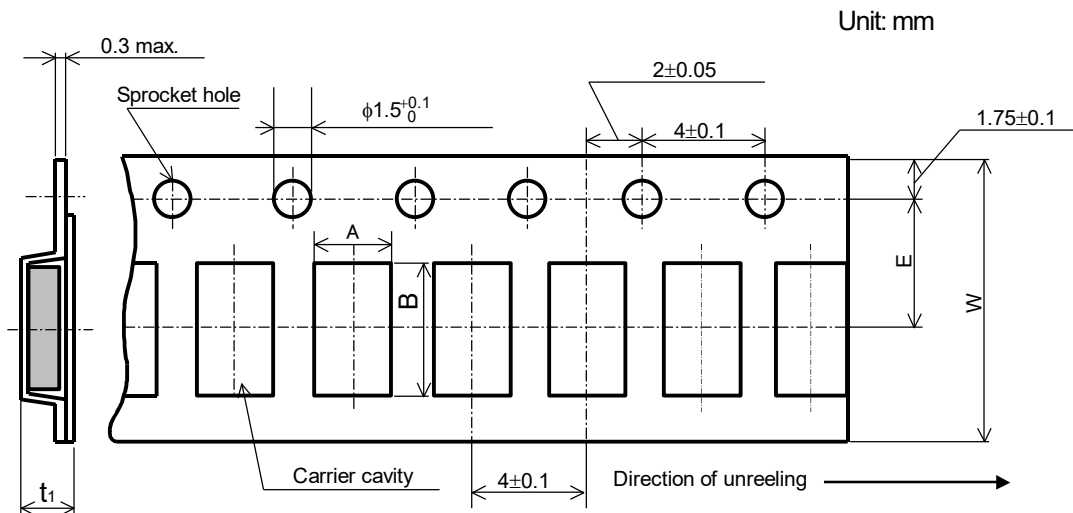

Figure-6
8.2.4 Embossed taping dimensions shall be in accordance with Figure-6 and Table-8.